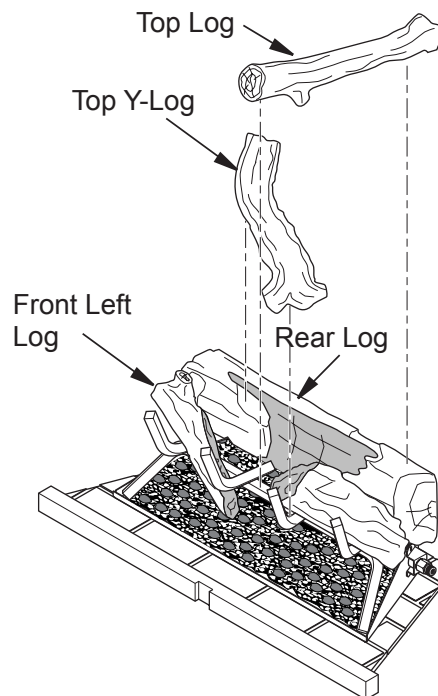
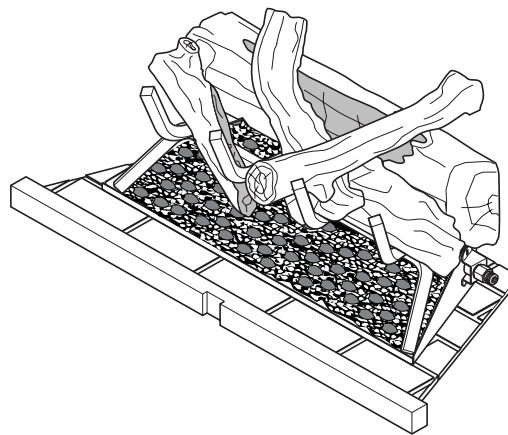

Figure 26 - Installing Logs 4 and 5
Figure 27 - Logs Installed
4. Place top of log 4 into notch on log 1. Rest log 4 on the center of grate as shown in Figure 26.
5. Place top of log 5 into notch on top right of log 1 (see Figure 26). Rest log 5 between two middle grate fingers as shown in Figure 27.